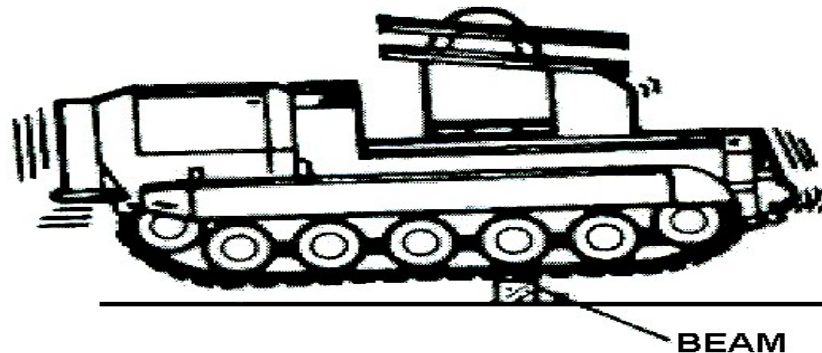

Figure 3-137
8. Direct personnel to determine the center of balance of a tracked vehicle using prescribed procedures (see Figure 3-137).